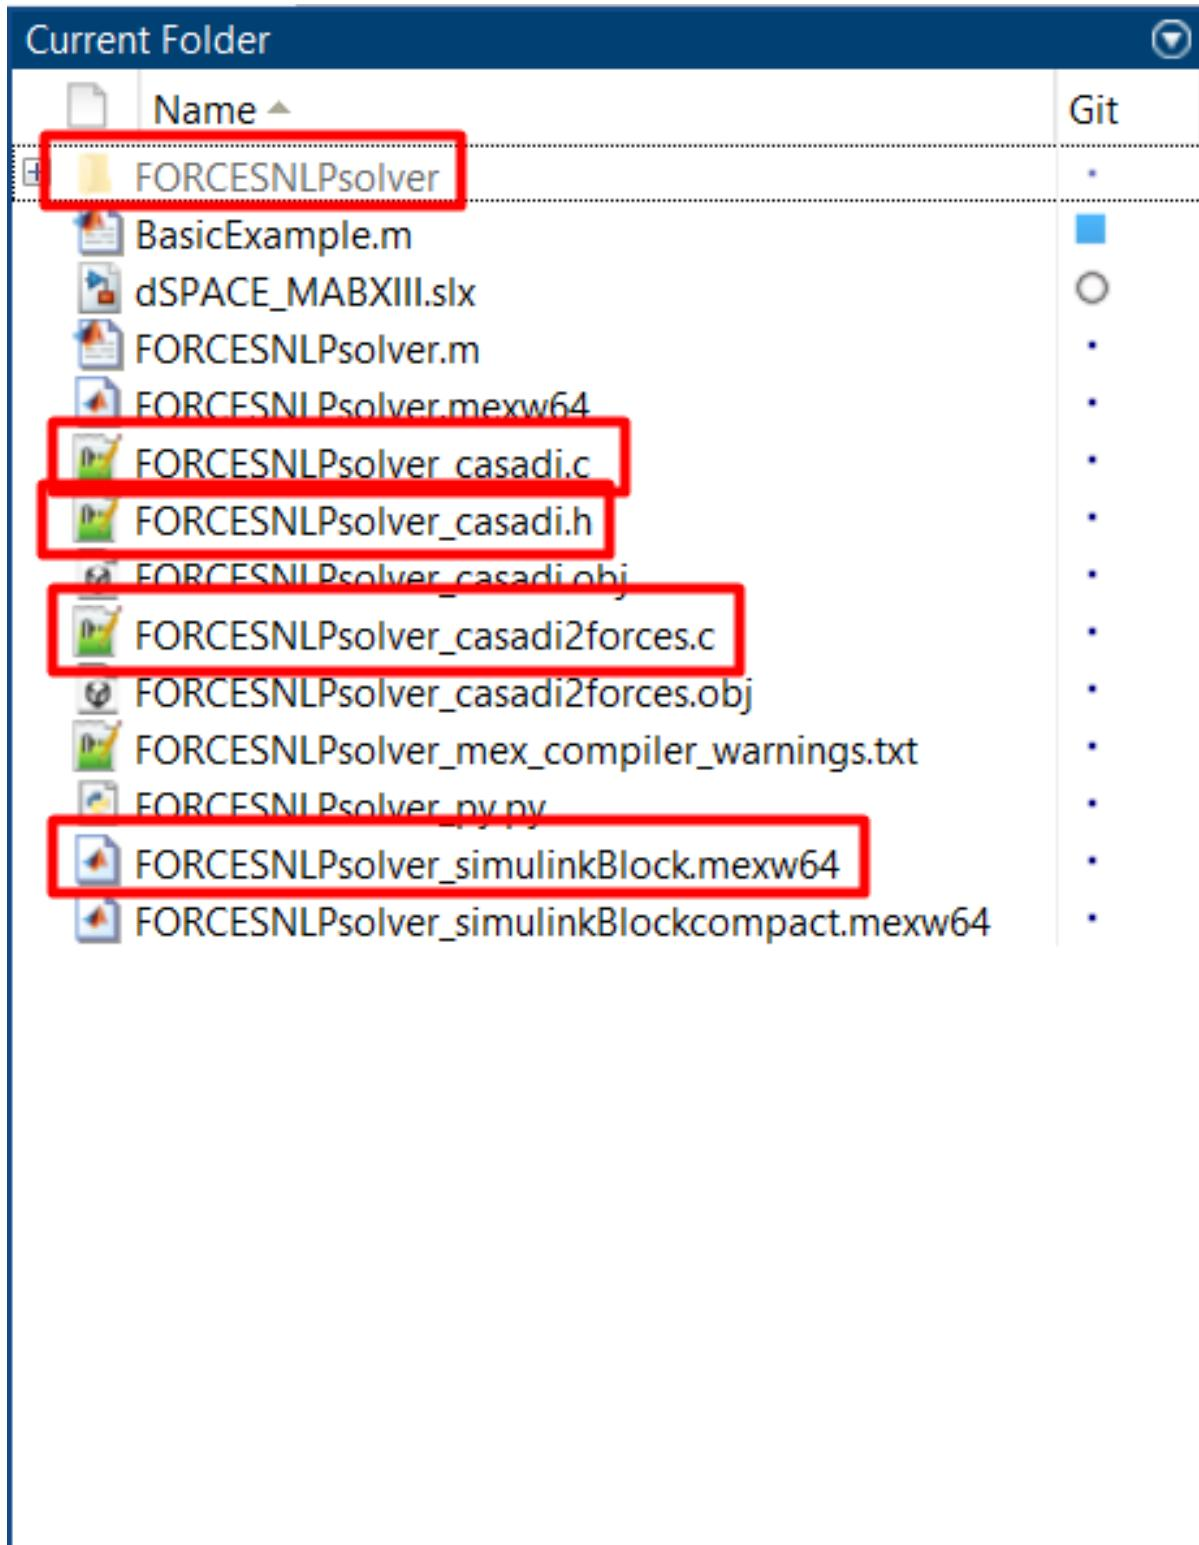
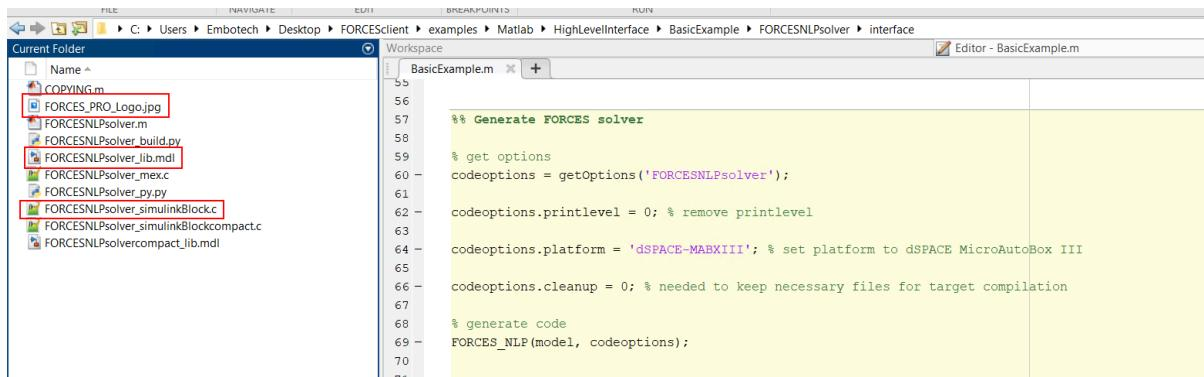
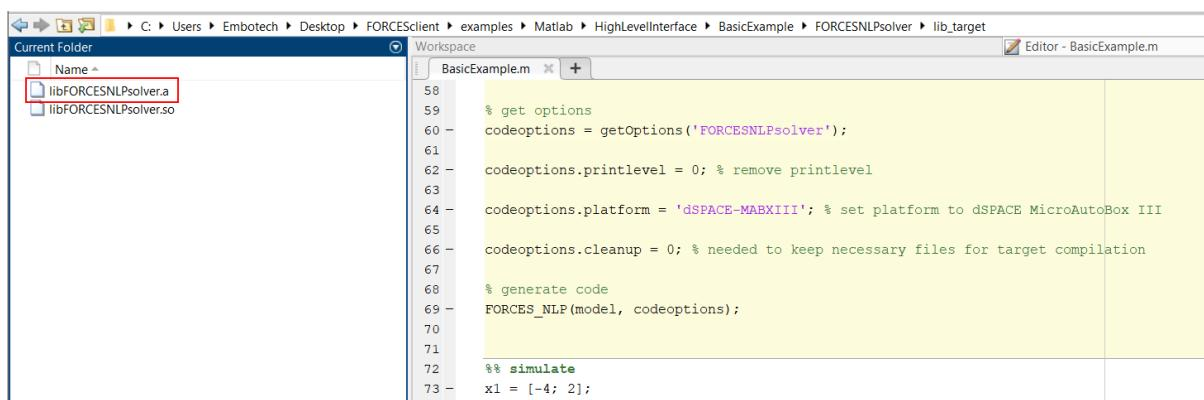

Figure 13.58: Generated files.
Figure 13.59: Solver interface files.
Figure 13.60: Solver libraries.
- 4) Run the BasicExample.m script to perform code generation for your solver (henceforth referred to as FORCESNLPsolver, placed in the folder “BasicExample”). This will create the necessary files for your building (see Figure 13.58, Figure 13.59 and Figure 13.60).